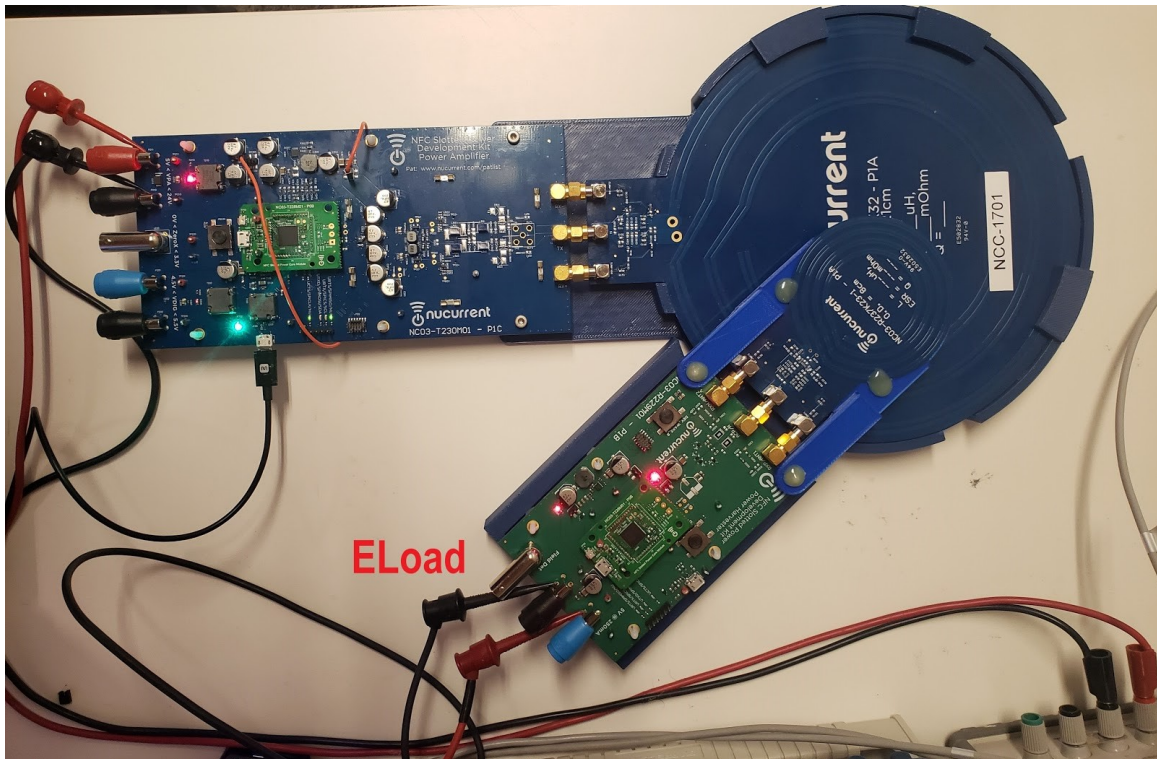

Figure 28: Power Harvester Placement
- 1) Place the assembled Harvester module on top of the Amplifier module as shown in Figure 28. NOTE: VRECT and VREG LEDs on the Harvester should now light up.
- 2) Connect an Electronic load to the Harvester module across the Vreg (Blue) and Ground (Black) banana jacks, as shown in Figure 28 and draw up to 1.25W of power.